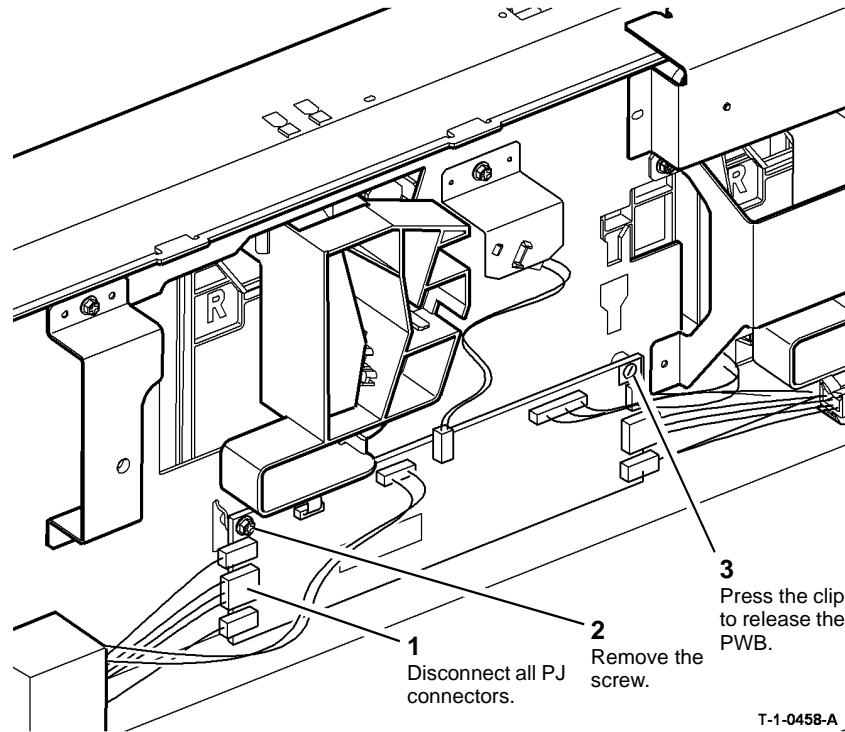

Figure 2 HCF control PWB removal
- Remove the HCF control PWB, Figure 2.